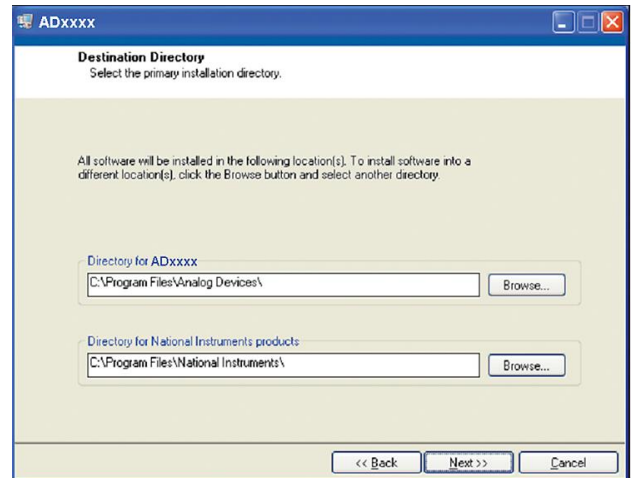

Figure 6. AD7124-8 EVAL+ Software Installation: Selecting the Location for Software Installation
4. Select a location to install the software and then click **Next**. (Figure 6 shows the default locations, which are displayed when the dialogue box opens, but you can select another location by clicking **Browse**.)